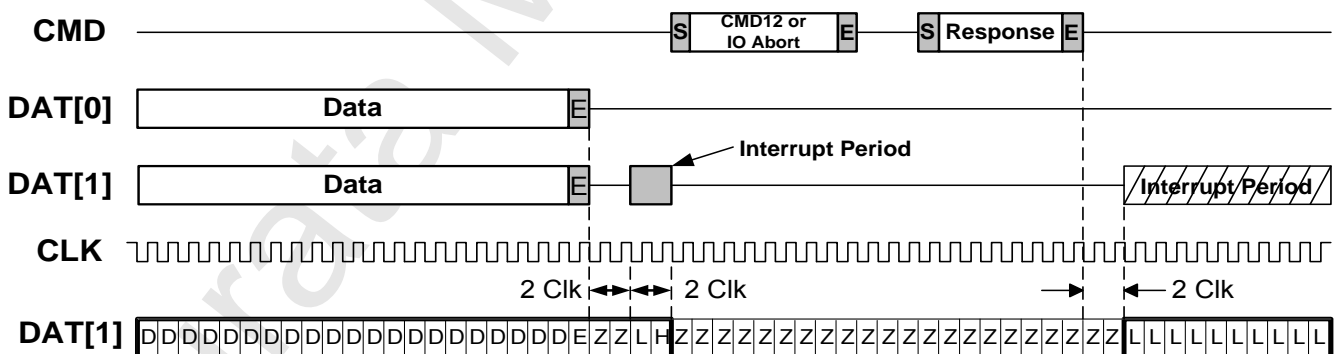
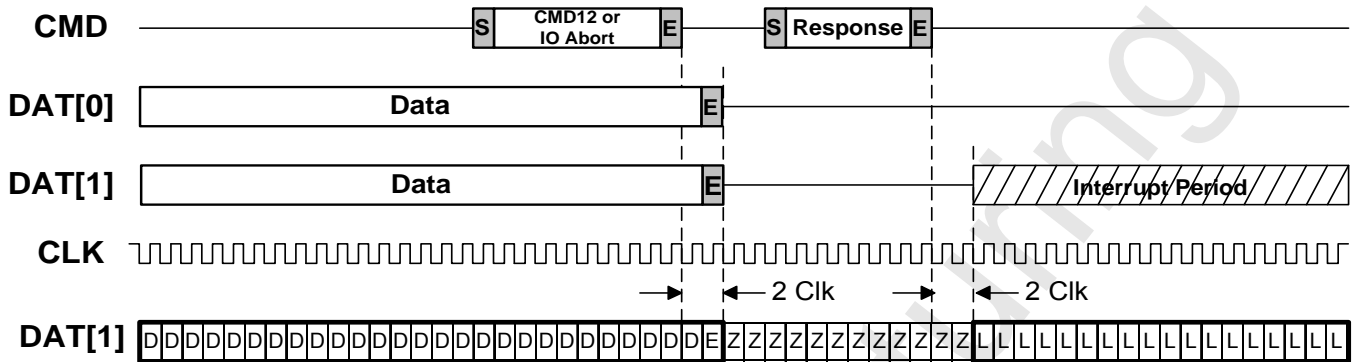

Figure 8-9 : Terminated Read Multiple Interrupt timing (Case 1)
Figure 8-10 : Terminated Read Multiple Interrupt timing (Case 2)
In the case of the Read Multiple Block or Write Multiple Block commands to the memory of a combo card, a special case for the timing of the Interrupt Period is created when the transfer is terminated. The Read Multiple and Write Multiple commands cause the card or host to transmit blocks of data until the operation is terminated by the host issuing a CMD12 or I/O Abort. In the case of a host transfer abort (memory or I/O), the timing of the Interrupt Period is the same. The Interrupt Period (if active) ends 2 clocks after the end bit of the stop transmission command (CMD12 or I/O Abort). The Interrupt Period re-starts 2 clocks after the end bit of the response. There are 2 cases for the Interrupt Period, depending on when the host issues the CMD12 or I/O Abort. Figure 8-9 shows the timing of the Interrupt Period for a Read Multiple command if the stop transmission is issued after a block of data has begun. In this case, the normal Interrupt Period begins 2 clocks after the end of the last data block. The Interrupt Period again begins 2 clocks after the end of the response to the transfer abort.
Figure 8-10 shows a second case where the read multiple transfer was terminated during data transfer and the effect on the Interrupt Period. The read data transfer is terminated by a CMD12 (memory) or an abort I/O write (CMD52). One clock after the abort, the data shall terminate and the card shall send a single end bit before releasing the data bus. Two clocks after the response end, the Interrupt Period begins when the card can signal interrupt by asserting a 0 (L) on the DAT[1] line.
The termination of a Write Multiple command has the same timing as shown in Figure 8-9 and Figure 8-10.